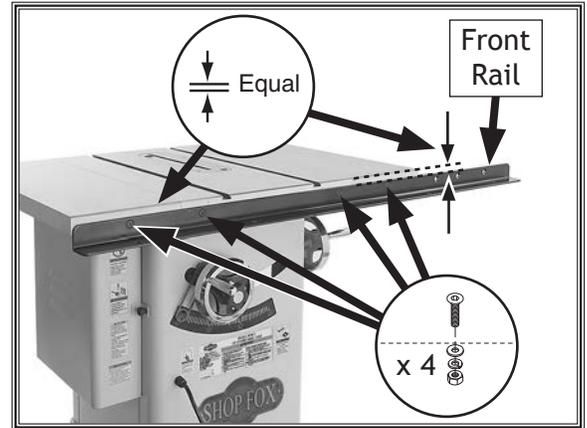

Figure 24. Front rail installed.
- Attach front rail to table and extension wings with (4) M8-1.25 x 35 flat head screws, 8mm flat washers, 8mm lock washers, and M8-1.25 hex nuts, as shown in **Figure 24**. Make sure top of rail is parallel with table top before fully tightening fasteners.